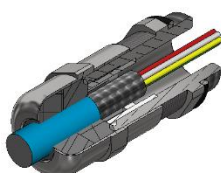

fig.2
- Push in the stripped wire up to the stop on the claw (fig.2)